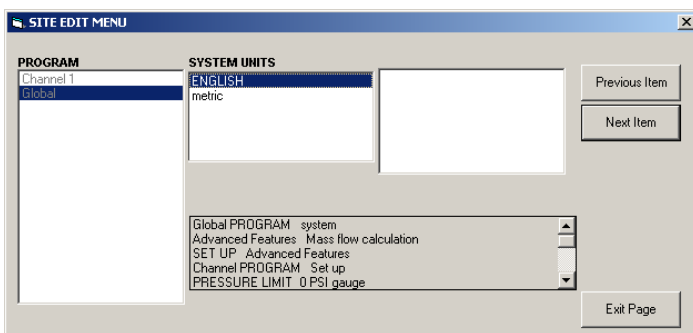

Figure 45: System option in the global menu
2. Highlight and double-click on the *system* option in the center pane. The window now appears similar to *Figure 45* below.